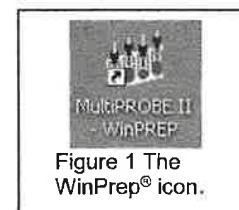

Figure 1 The WinPrep® icon.
6. Double click the WinPrep® icon on the computer desktop (Figure 1).